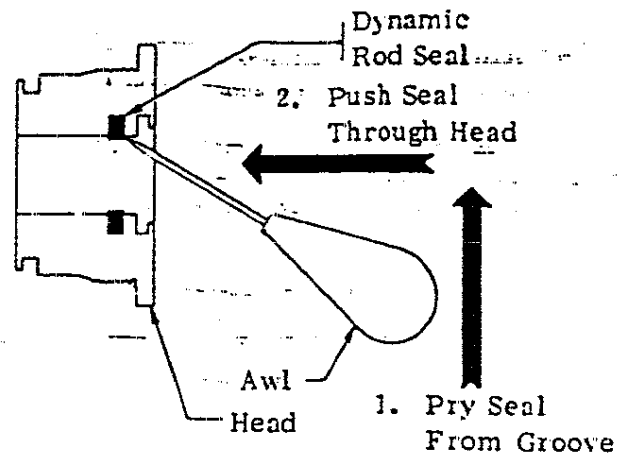

Figure F-4. Dynamic Rod Seal Removal
12. Position the head with the top of the head up and puncture the dynamic rod seal with the ice pick or awl. Pry it out of the groove and push it on through the head (Figure F-4).